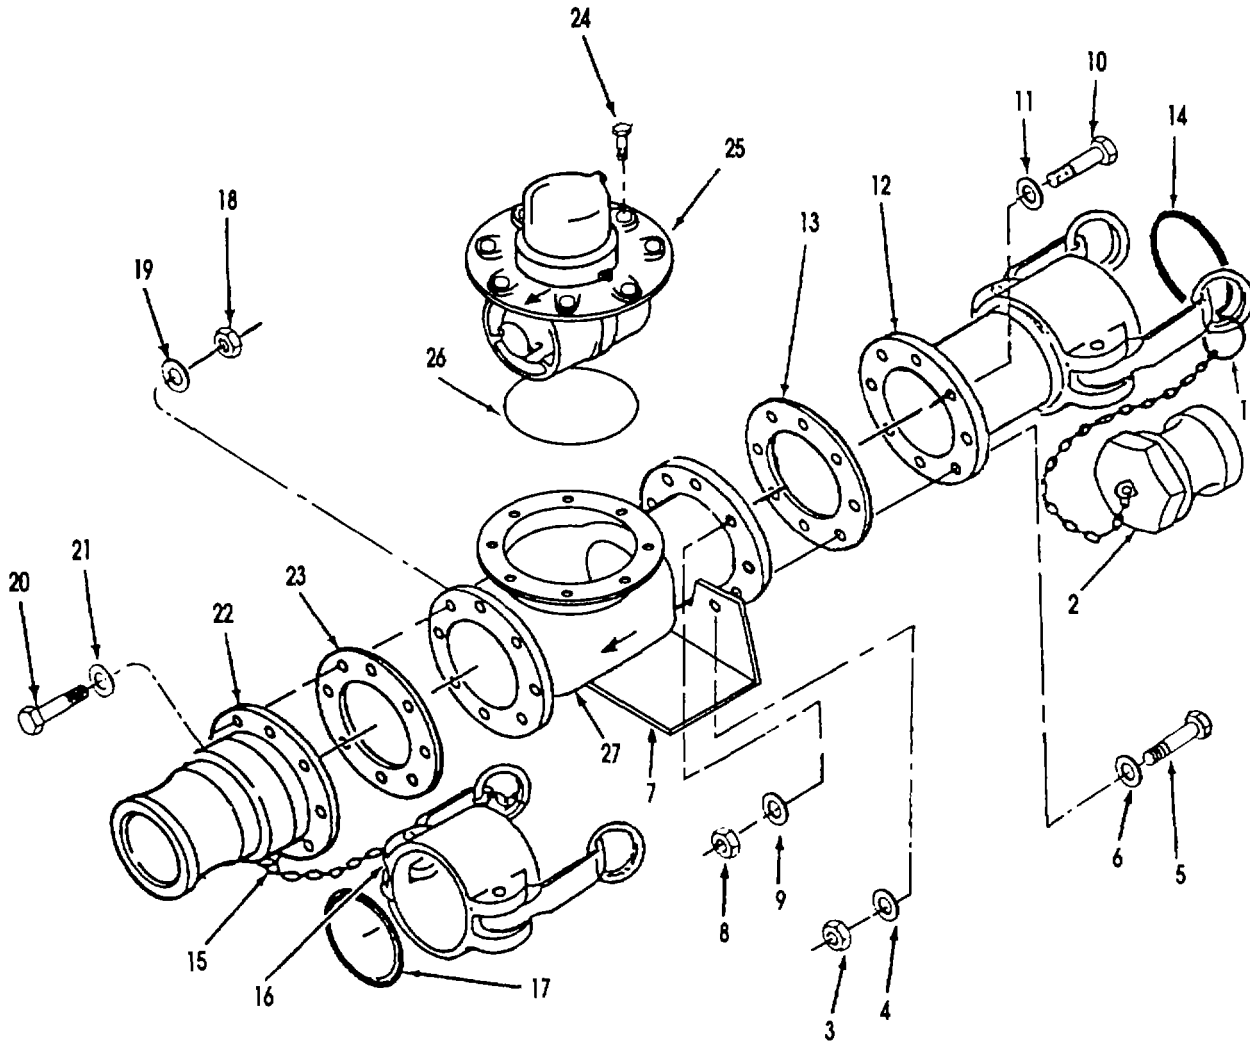

Figure 4-29.1 Water Meter Repair (Model 800KWSDS).
a. Disassembly. Refer to figure 4-29.1.
(1) Disconnect ring (1) from female coupling (12) and remove plug (2).
e. Assembly. Refer to figure 4-29.1.
- (1) Position gasket (26) on meter maincase (27).
- (2) Lower meter unit (25) onto gasket (26) and meter maincase (27). Make sure arrow on top of the meter unit is pointing in the same direction as the arrow on the maincase.
- (3) Install 8 bolts (24).
- (4) Position gasket (23) and male coupling (22) on outlet flange of water meter maincase (27).
- (5) Install eight flat washers (21), screws (20), flat washers (19) and self locking nuts (18).